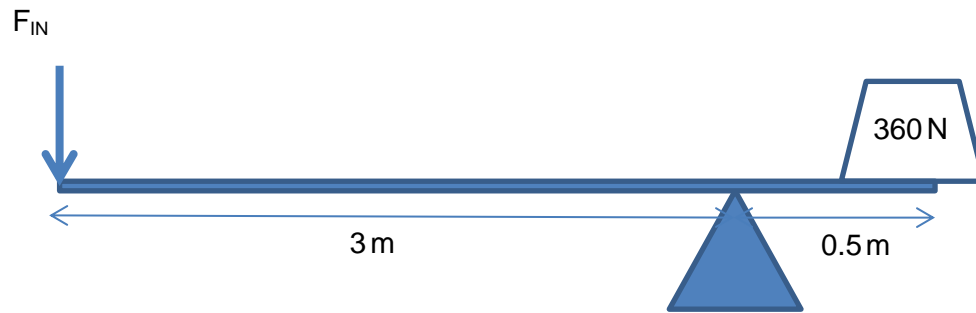

Fig. 10
- (c) Fig. 10 shows a lever system.